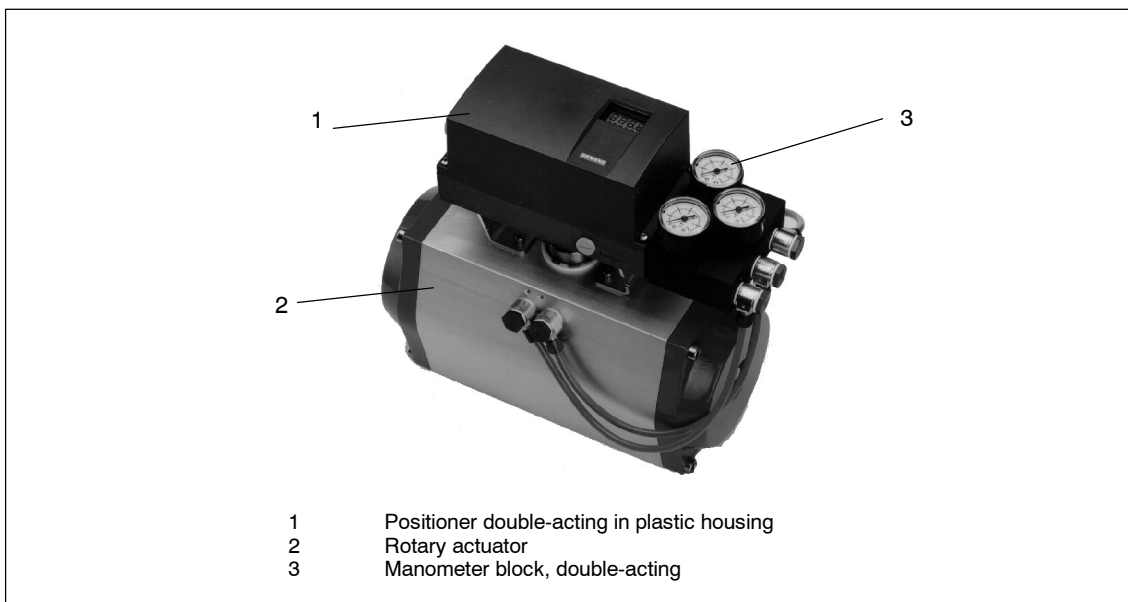

Figure 1-2 Positioner mounted on **rotary actuator** (double-acting)
- with rotary actuator VDI/VDE 3845 (figure 1-2, page 13)